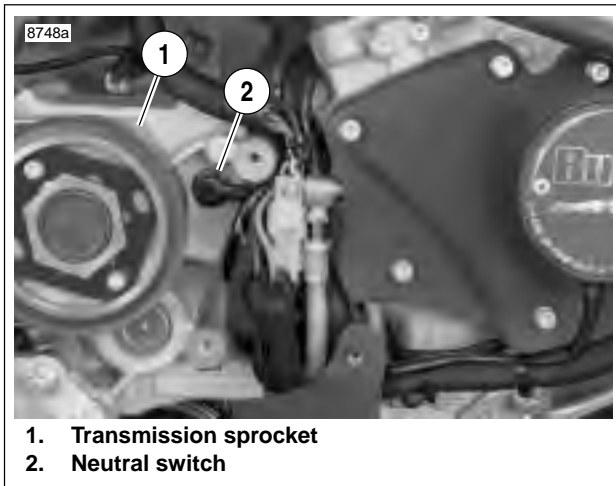

Figure 4-21. Neutral Switch
- By placing the motorcycle in neutral and grounding the relay through the neutral switch. See Figure 4-21.